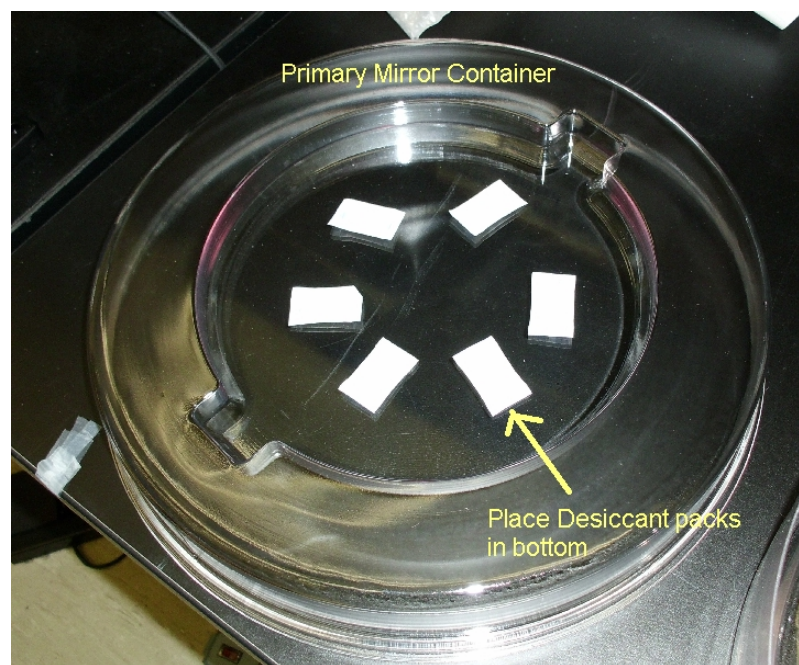

Figure1.
- Place 5/6 desiccant bags in the PETG container base before placing the mirror so the bags will be under the mirror as shown in **figure 1**. The coated side will not be in contact with the bags